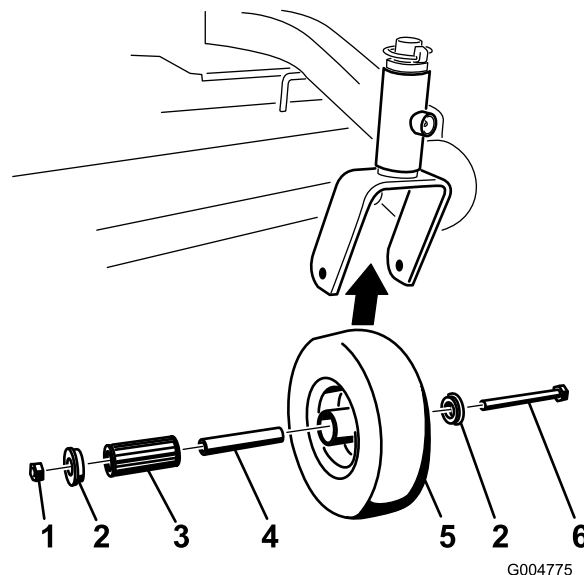

Figure 42
1. Remove the locknut and wheel bolt holding the caster wheel to the caster fork (Figure 42).
2. Remove one bushing, then pull the spanner bushing and roller bearing out of the wheel hub (Figure 42).
3. Remove the other bushing from the wheel hub and clean any grease and dirt from the wheel hub (Figure 42).
4. Inspect the roller bearing, bushings, spanner bushing and inside of the wheel hub for wear. Replace any defective or worn parts (Figure 42).
5. To assemble, place one bushing into the wheel hub. Grease the roller bearing and spanner bushing and slide them into the wheel hub. Place the second bushing into the wheel hub (Figure 42).
6. Install the caster wheel into the caster fork and secure with the wheel bolt and locknut. Tighten the locknut until the spanner bushing bottoms against the inside of the caster forks (Figure 42).